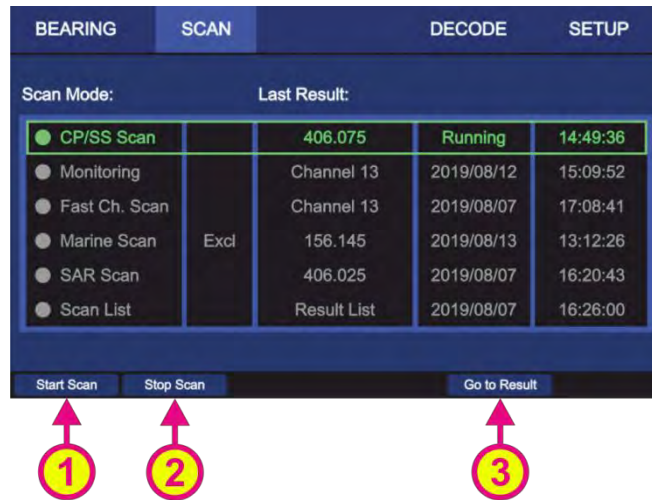
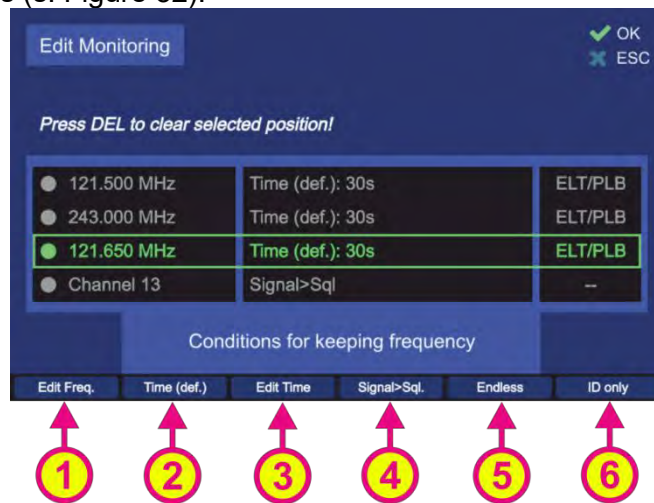
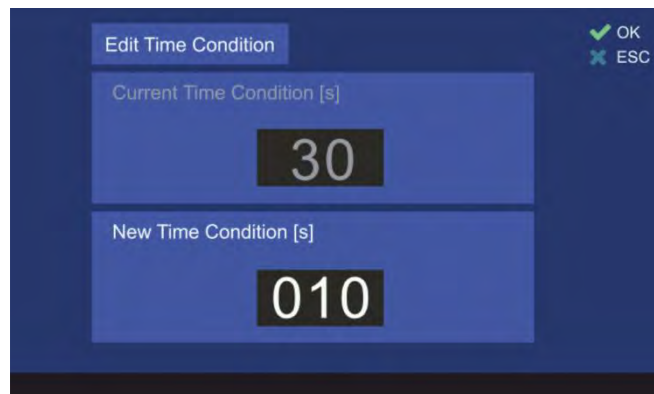

Figure 23. "Cospas-Sarsat Scan" mode has been activated
Figure 32. Monitoring mode settings
Figure 33. Hold time setting
- To start the “Cospas-Sarsat Scan” mode select the corresponding line on the “Scan” page and press “OK” or the hotkey “Start Scan” (s. Figure 23, position 1)
- Pressing the hotkey “Stop Scan” (s. Figure 23, position 2) will terminate the current scan mode and change to the bearing of the frequency, that was set before the scan mode has been activated.
- Pressing the hotkey “Go to Result” (s. Figure 23, position 3) during the Cospas-Sarsat scan is currently running, will terminate the scan mode, adopt the frequency which was found in this scan last time and change to the “Bearing” page. Pressing the hotkey “Go to Result” if the scan mode is not activated, will lead to the “Bearing” page with the last result as the activated frequency. This hotkey appears only if there is a result for this scan.
- Pressing the hotkey “Go to Result” (s. Figure 23, position 3) during the monitoring is currently running, will terminate the scan mode, adopt the frequency which was found in this scan last time and change to the “Bearing” page.
- Pressing the hotkey “Edit Scan” (s. Figure 23, position 4) will open the dialog for changing the monitoring settings (s. Figure 32).
- Pressing the hotkey „Time (def)” (s. Figure 32, position 2) will set the hold time (duration of staying in the scanning on this particular frequency) to the default value of 30 seconds.
- Pressing the hotkey “Edit Time” (s. Figure 32, position 3) will open the sub-dialog for changing the hold time to the customized value (s. Figure 33). Use the number keys of the DCU keypad to type the new value in and confirm it with “OK”.
- The hotkey “Signal > Sql” defines the behavior of the monitoring algorithm to “signal level > squelch level” (s. Figure 32, position 4).
- The hotkey “Endless” (s. Figure 32, position 5) defines the behavior of the monitoring algorithm when an active frequency has been found.
- Pressing the hotkey “ID only” (s. Figure 32, position 6) activates or deactivates the feature “ID Only” (s. 7.2.2.3):